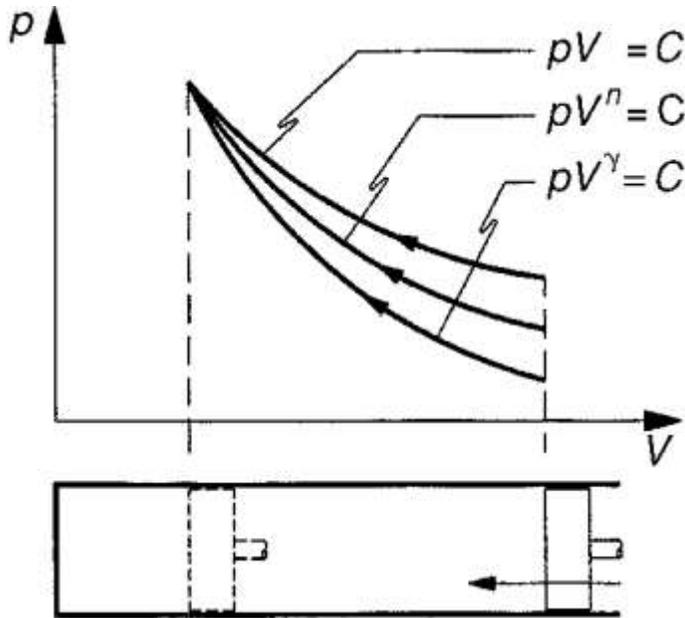

Figure 7 Compression curves
- The adiabatic curve is steepest and, as the index lowers, so the p/V curve flattens (Fig.7).